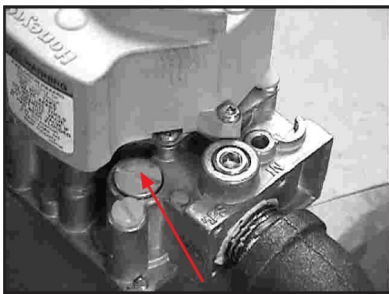

Figure 1: PRV Cap Screw
2. Convert the gas valve using the kit supplied. Follow the gas valve manufacturer's instructions supplied with the kit. Figures 1, 2, and 3 show the PRV cap screw, adjusting screw, and spring. The color code for the Honeywell valve kit is as follows.